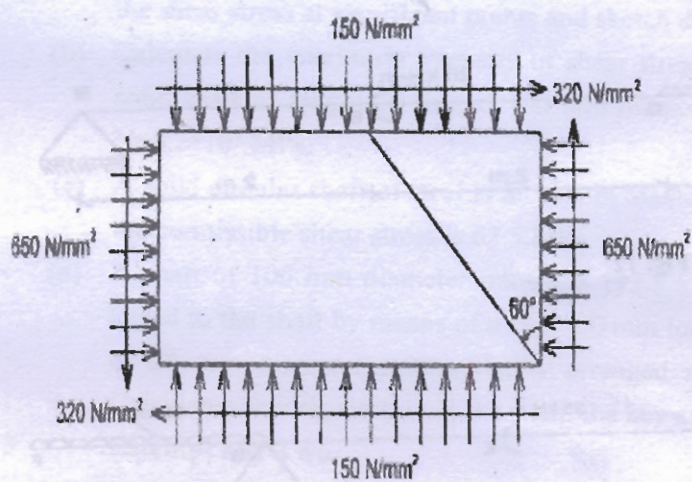

Fig. 5
- (c) At a point in a strained material, the intensities of Normal stress across two planes right angles to each other as shown in **Figure 5**. Locate the principal planes and evaluate the principal Stresses (p_1 & p_2). Also find the planes of maximum shear stress ($p_{t \max}$) & its location. Find Normal (p_n), Tangential (p_t) stresses on a plane inclined at 60° with vertical as shown in Figure.5. Use both Analytical and graphical method.